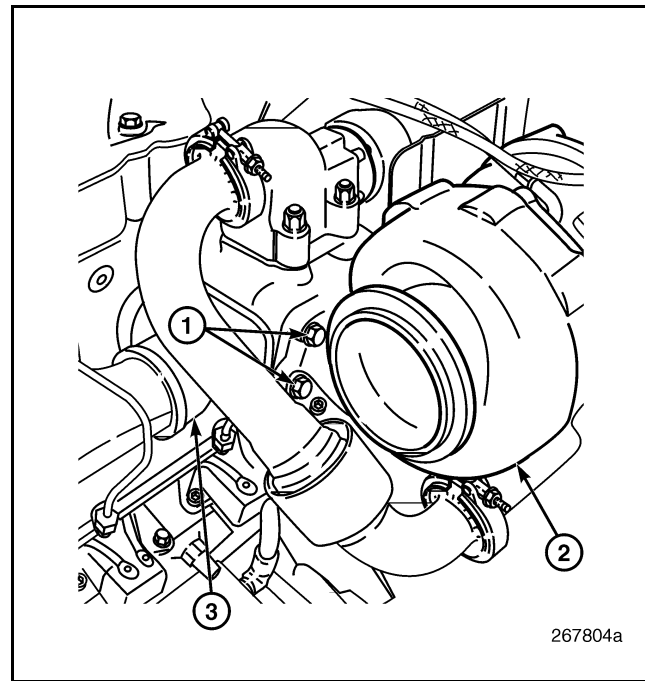

Figure 516 — Turbocharger Mounting
3. Place the turbocharger in position over the mounting studs on the exhaust manifold (Figure 516).